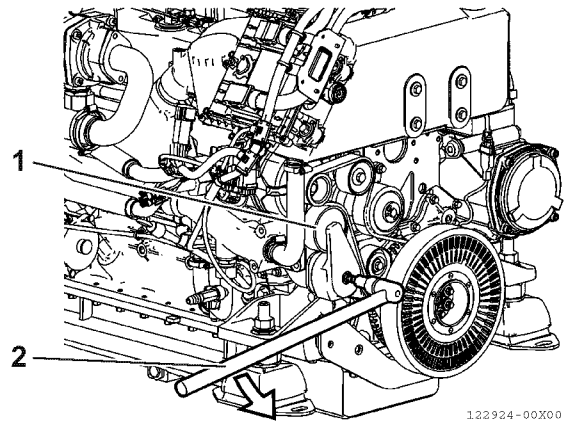

Figure 18
- At the same time, make sure that the tensioning device (**Figure 18, (1)**) is working properly, proceeding as indicated in the figure.